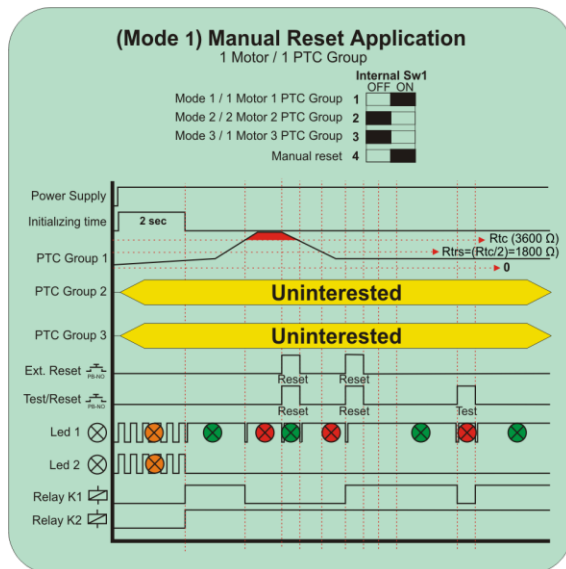

fig. 9
(fig. 9,10,11)
- At Manual reset mode, the LED remains red until the above condition is satisfied and furthermore, the *Onboard* or the *External Reset button* has to be pressed. (fig. 9,10,11)